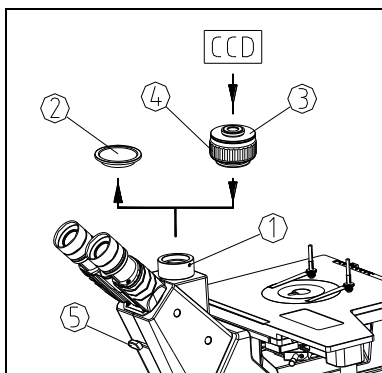

Fig. 29
- (1) Loosen the lock screw ① on third-tube, here can take out the dust-cover ②. (Fig. 29)
- (2) Take off the dust-cover on CTV ③ and CCD camera, and screw the CTV into CCD camera. Then assemble the whole CCD camera to third-tube and lock.
- (3) Observe through binocular first to get clear image, then observe on CCD camera. If the image is not clear, please focus the CTV lens ④ till it clear.